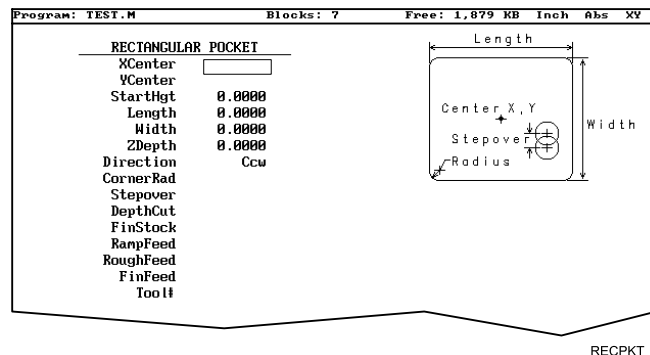

Figure 4-16, RECTANGULAR POCKET Graphic Menu
2. Highlight **Rectangular** and press **ENTER** to display the **RECTANGULAR POCKET** Graphic Menu. Refer to **Figure 4-16**.